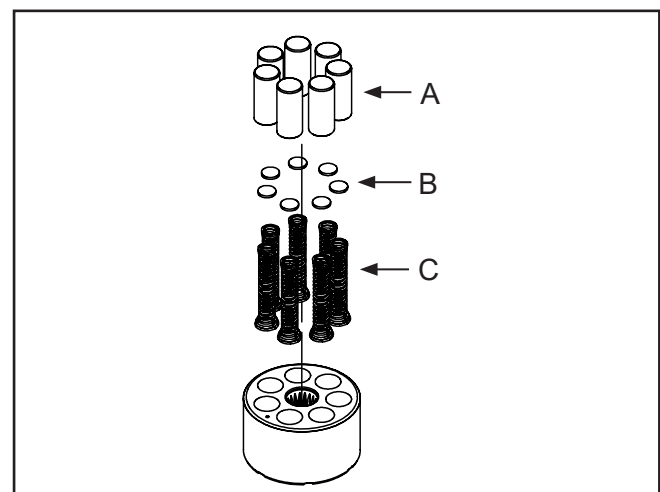

Figure 19.
9. **(See Figure 19)** Check each piston for proper operation by pressing the pistons in and releasing them in the block bore. Disassemble the pump cylinder block. Check for piston/block wear in the cylinder bore. Inspect the pistons (A), piston springs (C) and thrust washers (B) for excessive wear or damage. NOTE: Thrust washers may be held in place in the piston by residual oil.